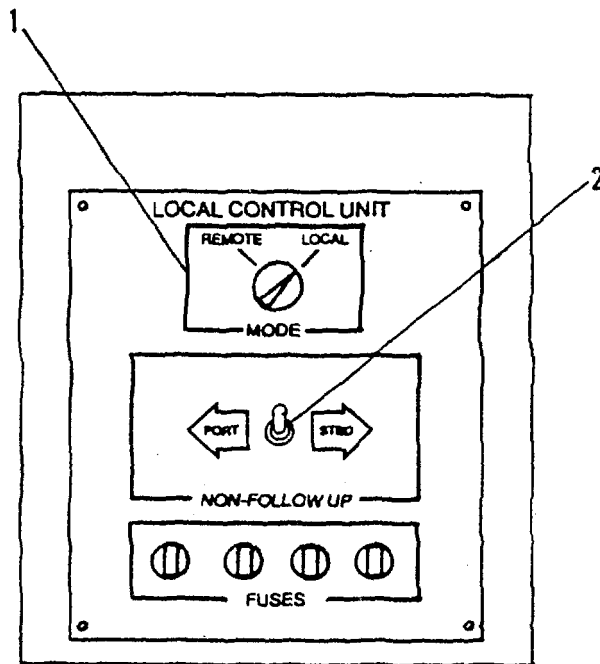

FIGURE 2-248.2. Steering Gear Room Local Control Unit
- c. When normal steering from the pilothouse is disabled, control can be transferred to the local control unit in the steering gear room. With communication from the pilothouse, a crew member will select LOCAL on the LOCAL-REMOTE SWITCH on the LOCAL CONTROL UNIT (1, FIGURE 2-248.2).
- d. At direction from the pilothouse, the crew member will move the Non-Follow-up toggle switch (2, FIGURE 2-248.2) port or starboard. The toggle has a spring return to neutral, while rudder travel continues unless a hard over stop is reached.